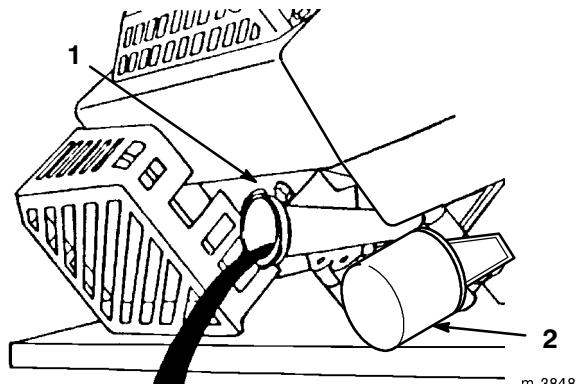

Figure 21
6. Remove the dipstick from the oil fill tube (Fig. 21).
8. Tip the lawnmower onto its **left** side and allow the oil to drain into the drain pan (Fig. 21).